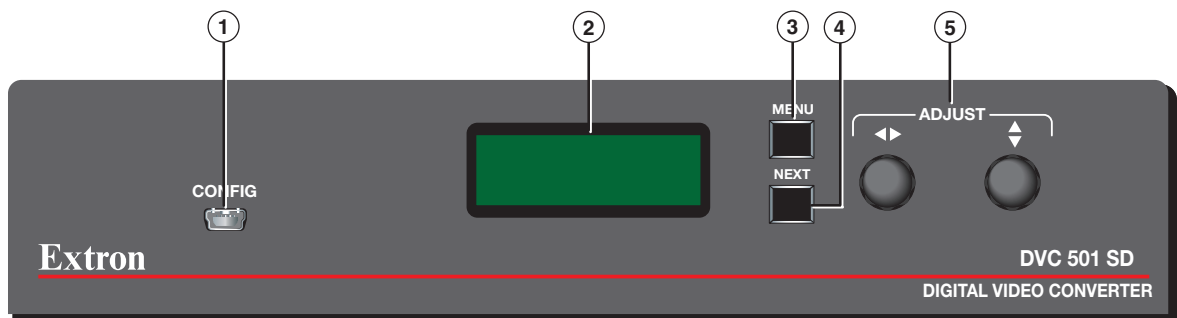

Figure 9. DVC 501 SD Front Panel
- **Config port (front panel)** — USB connection (① in figure 9, “Operation” section)